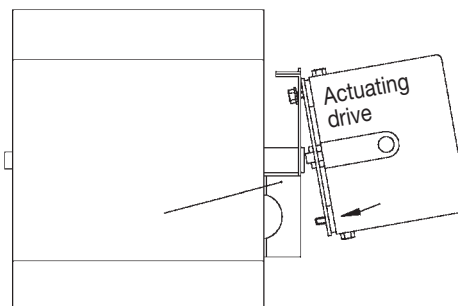

Fig. 4
1. Release securing nuts, pull out opening lever (Fig. 4)
8. Turn the actuating pin of the motor control to control position, lock with fixing lever. (Fig. 4)
9. Push opening lever into axle, attach securing nut and tighten. (Fig. 4)